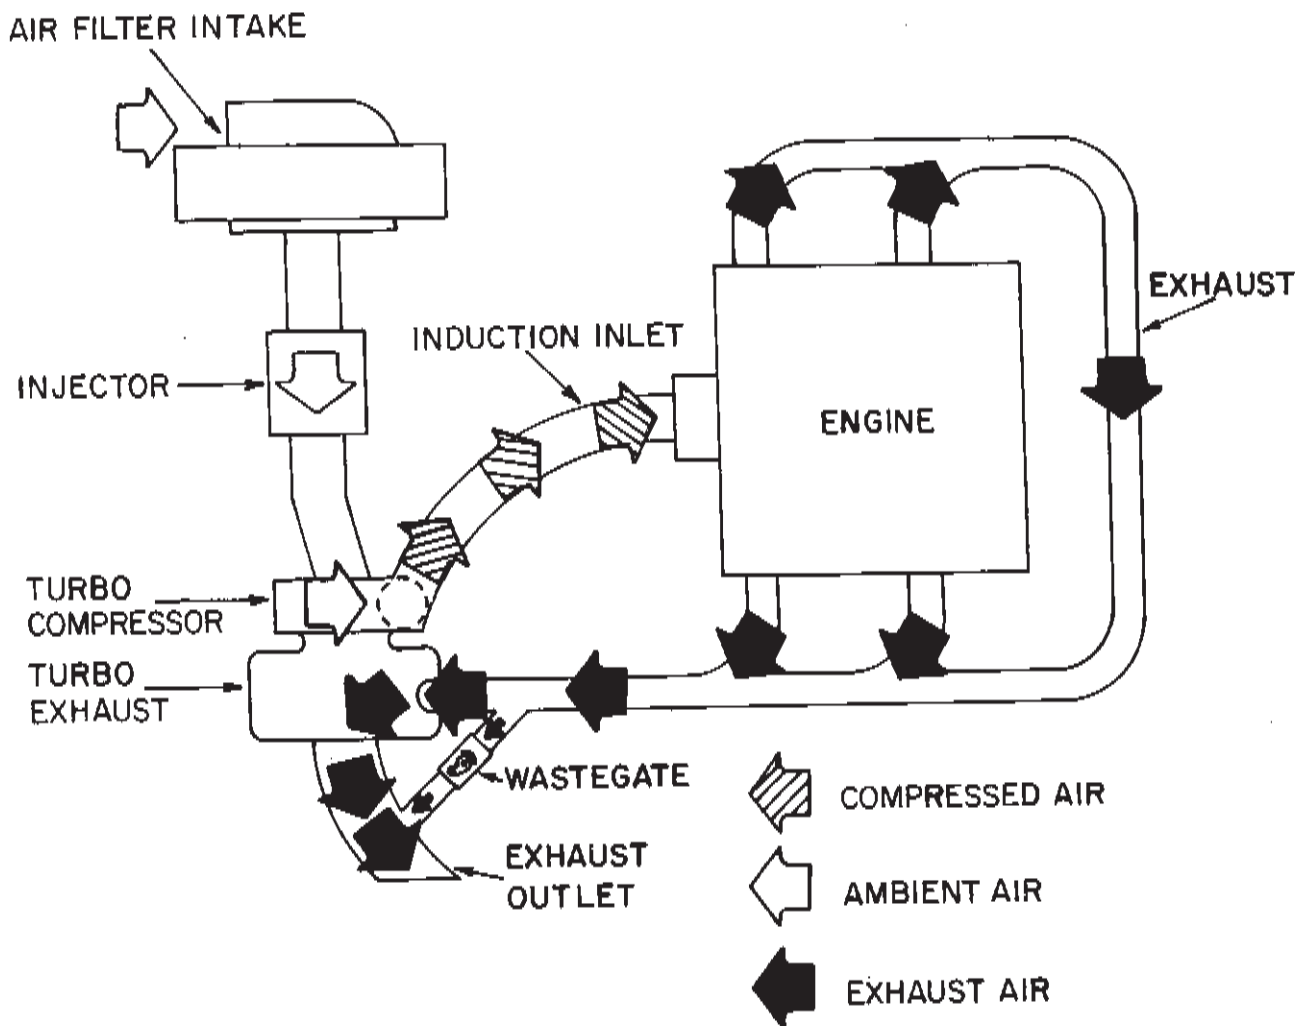

FIGURE 13-11
A. General Information (See Fig. 13-11)